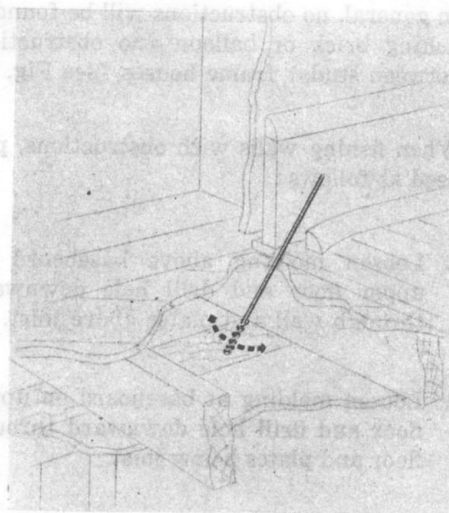

Fig. 4 — Locating Plates
- When drilling plates, locate them by feeling with the bit to determine proper position for drilling as shown in Fig. 4.